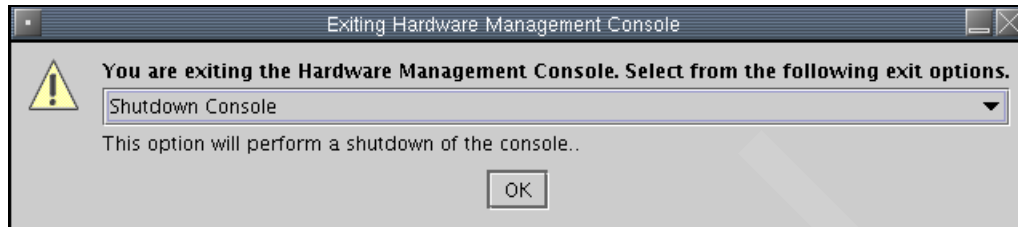

Figure 3-19 Accept shutdown
5. Click **OK**. See Figure 3-19.